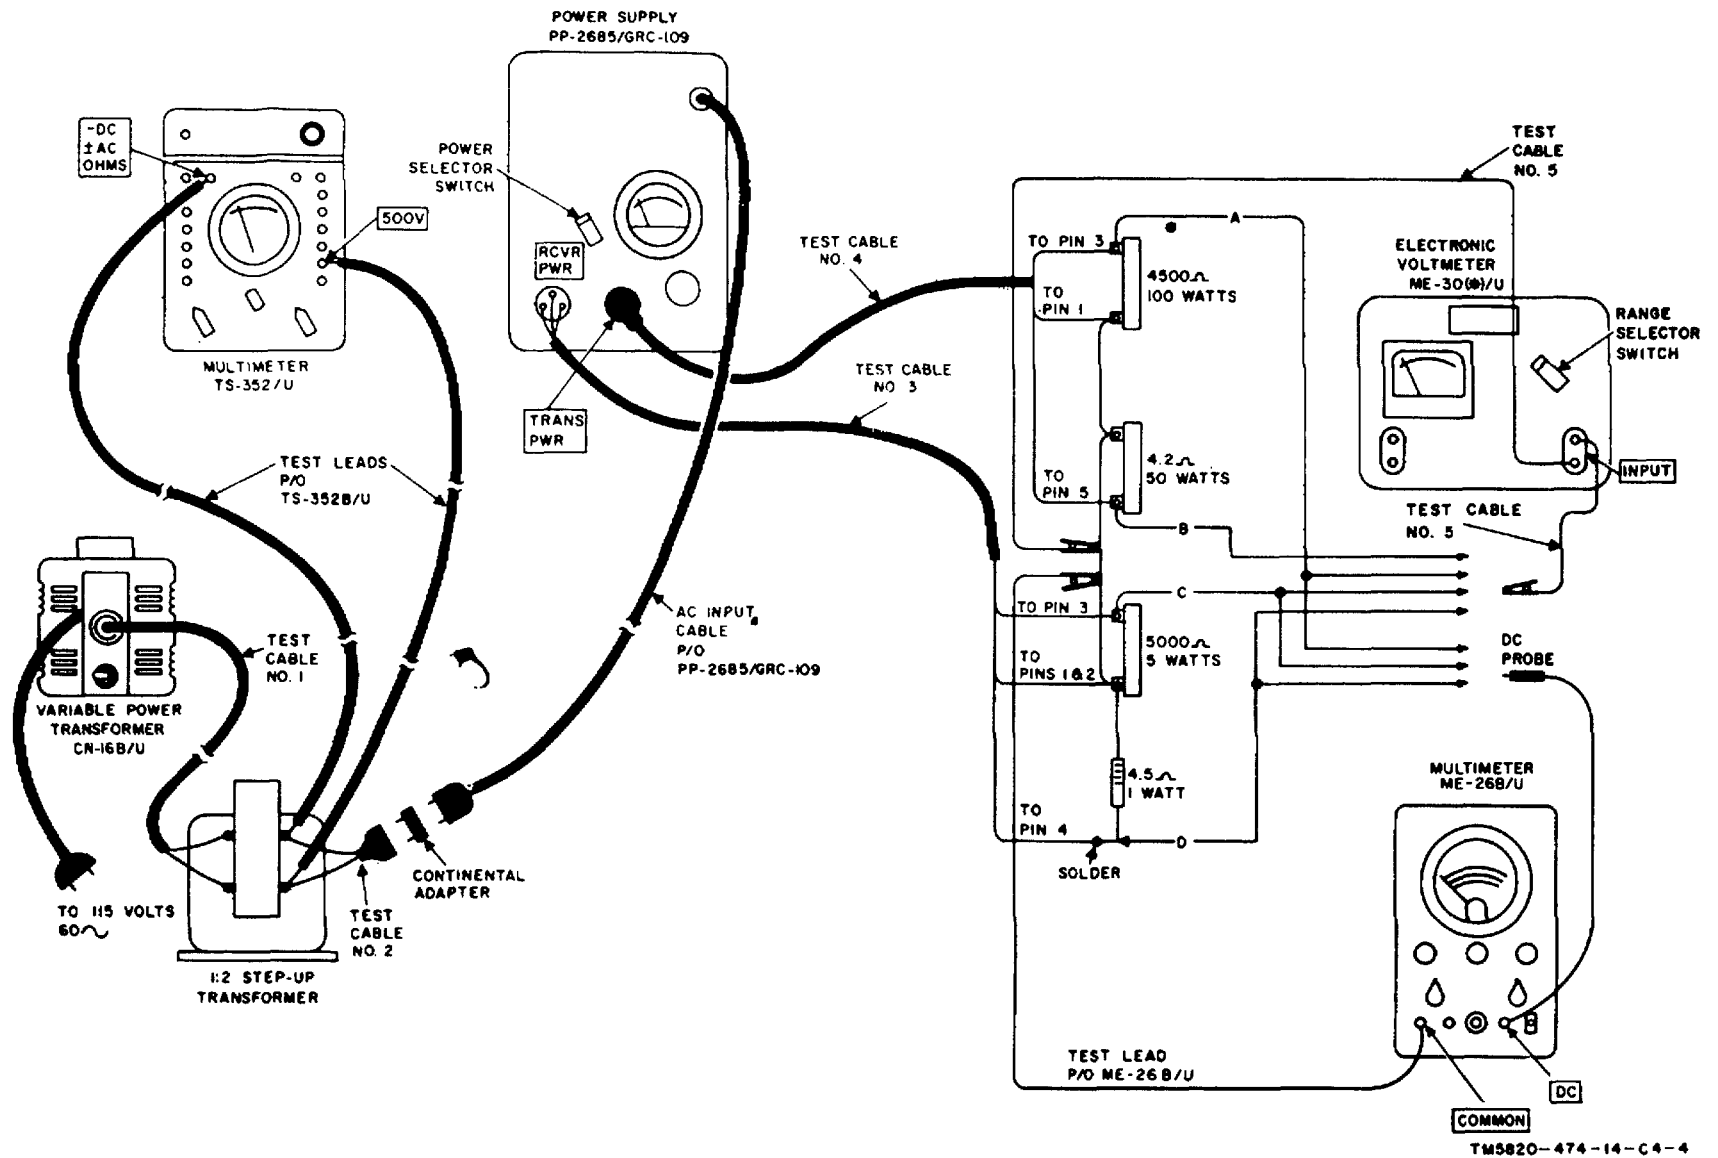

Figure 54. Power Supply PP-2685/GRC-109, output voltage and ripple tests.
b. Test Connections and Conditions. Connect the equipment as shown in figure 54. Turn on the test equipment and allow 15 minutes to warm up before proceeding. Be sure the voltage selector dial on the CN-16(*)/U is set to zero.
| 1 | TS-352(*)/U: FUNCTION: AC VOLTS ME-30(*)/U: Range selector switch: 10V. TS-505 (*)/U: FUNCTION: +D. C. RANGE: 1000V | PP-2685/GRC-109: Power selector switch: 220 | a. Connect the test leads from the ME-30(*)/U and the TS-505(*)/U to agree with connection A, figure 54. b. Adjust the voltage selector dial on the CN-16(*)/U for an indication of 220 volts on the TS-352(*)/U. c. Note the indication on the ME-30(*)/U. d. Note the indication on the TS-605(*)/U e. Adjust the voltage selector dial on the CN-16(*)/U for an indication of 75 volts on the TS-352(*)/U. f. Turn the power selector switch on the PP-2685/GRC-109 to 75. g. Note the indication on the ME-30(*)/U h. Note the indication on the TS505(*)/U i. Turn the power selector switch on the PP-2685/GRC-109 to 110. j. Adjust the voltage selector dial on the CN-16(*)/U for an indication of 110 volts on the TS-352(*)/U. k. Note the indication on the ME-30(*)/U l. Note the indication on the TS-505(*)/U | a. None. b. None. c. ME-30(*)/U indication is less than 10 volts. d. TS-505(*)/U indication 450 volts ± 25 . e. None. f. None. g. ME-30(*)/U indication is less than 10 volts. h. TS-505(*)/U Indication is 450 volts ± 25 . i. None. j. None. k. ME-30(*)/U indication is less than 10 volts. l. TS-505(*)/U indication is 450 volts ± 25 . |
| 2 | As last indicated | As last indicated | a. Connect the test lead from the ME-30(*)/U to agree with connection B, figure 54. b. Note the indication on the ME-930(*)/U c. Adjust the voltage selector dial on the CN-16(*)/U for an indication of 75 volts on the TS-352(*)/U. d. Turn the power selector switch on the PP-2685/GRC-109 to 75. e. Note the indication on the ME-30(*)/U f. Turn the power selector switch on the PP-2685/GRC-109 to 220. g. Adjust the voltage selector dial on the CN-16(*)/U for an indication of 220 volts on the TS-352(*)/U. h. Record the indication on the ME-30(*)/U | a. None. b. ME-30SO)/U indication is 6.3 volts ± 0.4 . c. None. d. None. e. ME-30(*)/U Indication is 6.3 volt ± 0.4 . f. None. g. None. h. ME-30(*)/U indication is 6.3 volts ± 0.4 . |
| 3 | As last indicated | As last indicated | a. Connect the test leads from the ME-30(*)/U and the TS-505(*)/U to agree with connection C, figure 54. b. Turn the range selector switch on the ME-30(*)/U to 0.1 volt. c. Turn the RANGE switch on the TS-505(*)/U to 200 V. d. Note the indication on the ME-30(*)/U e. Note the indication on the TS-505(*)/U f. Adjust the voltage selector dial on the CN-16(*)/U for an indication of 75 volts on the TS-352(*)/U. g. Turn the power selector switch on the PP-2685/GRC-109 to 75. h. Note the indication on the ME-30(*)/U i. Note the indication on the TS-505(*)/U j. Turn the power selector switch on the PP-2685/GRC-109 to 110. k. Adjust the voltage selector dial on the CN-16(*)/U for an indication of 110 volts on the TS-352(*)/U. l. Note the indication on the ME-30(*)/U m. Note the indication on the TS-505(*)/U | a. None. b. None. c. None. d. ME-30(*)/U indication is less than 0.04 volt. e. TS-505(*)/U indication is 100 volts ± 10 . f. None. g. None. h. ME-30(*)/U indication is less than 0.04 volts. i. TS-505(*)/U indication is 100 volts ± 10 . j. None. k. None. l. ME-30S)/U indication is less than 0.04 volt. m. TS-505(*)/U Indication is 100 volts ± 10 . |
| 4 | As last indicated | As last indicated | <p>a. Connect the test leads from the ME-30(*)/U and the TS-505(*)/U to agree with connection D, figure 54.</p> <p>b. Turn the RANGE switch on the TS-505(*)/U to 2 V.</p> <p>c. Note the indication on the ME-30(*)/U</p> <p>d. Note the Indication on the TS-505(*)/U</p> <p>e. Adjust the voltage selector dial on the CN-16(*)/U for an Indication of 75 volts on the TS-352(*)/U.</p> <p>f. Turn the power selector switch on the PP-2685/GRC-109 to 75.</p> <p>g. Note the indication on the ME-30(*)/U</p> <p>h. Note the Indication on the TS-505(*)/U</p> <p>i. Turn the power selector switch on the PP-2685/GRC-109 to 220V.</p> <p>j. Adjust the voltage selector dial on the CN-16(*)/U for an indication M 220 volts on the TS-352(*)/U.</p> <p>k. Record the indication on the ME-30(*)/U</p> <p>l. Record the indication on the TS-505(*)/U</p> | <p>a. None.</p> <p>b. None.</p> <p>c. ME-30(*)/U indication is less than 0.04 volt.</p> <p>d. TS-505(*)/U Indication is 1.35 volts \pm 0.1.</p> <p>e. None.</p> <p>f. None,</p> <p>g. ME-30(*)/U indication is less than 0.04 volt.</p> <p>h. TS-505(*)/U indication 1.35 volts \pm 0.1.</p> <p>i. None.</p> <p>j. None.</p> <p>k. ME-30(*)/U indication is less than 0.04 volt</p> <p>l. TS-505(*)/U indication is 1.35 volts \pm 0.1.</p> |